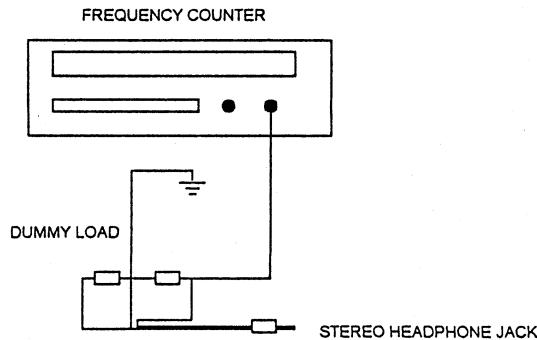

Figure 3. Tape Speed Adjustment
2. Connect a frequency counter with a 32 ohm dummy load to the stereo headphone jack.(See Figure 3.)